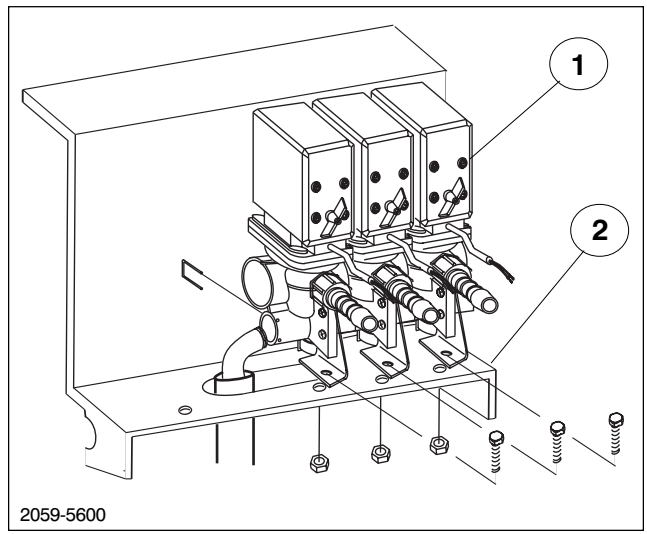

FIG. 8
8. Assemble Boom Valves to Boom Valve Bracket with three (3) 5/16-18 x 3/4 Flange Bolts and three (3) 5/16-18 Flange Nuts. Push Boom Valves as far to left as you can and tighten Bolts. (See FIG. 8)
9. Assemble bypass Hose to Boom bypass post using Fork (See FIG. 8, page 12). Bypass Hose is routed between the left fender and the left side of the Tank Saddle. Route through the large slot in the Boom Valve Bracket to the left of the Boom Valve.